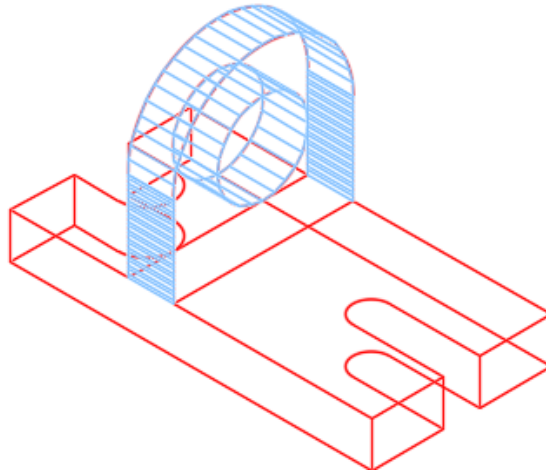

Figure Step 10
Step 10 Using what was just taught, insert ruled surfaces around the top of the object and inside of the hole as shown in the figure. (Figure Step 10).